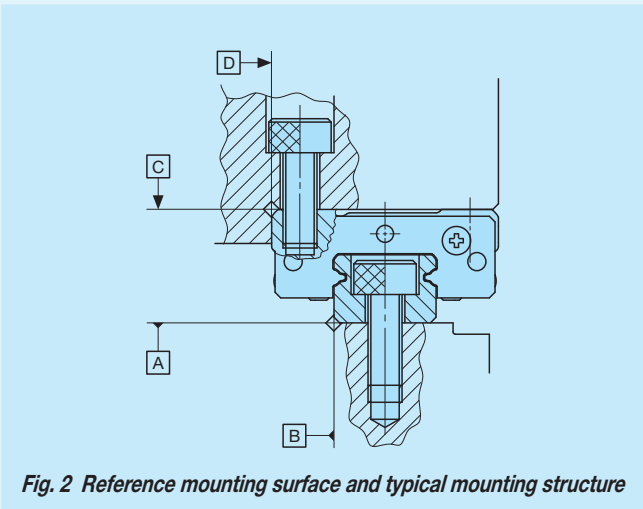

Fig. 2 Reference mounting surface and typical mounting structure
- ① Handling
- ② Mounting surface, reference mounting surface and typical mounting structure
- When mounting the MLV series, properly align the reference mounting surfaces B and D of the track rail and the slide unit with the reference mounting surface of the table and the bed and fix them. (See Fig.2)